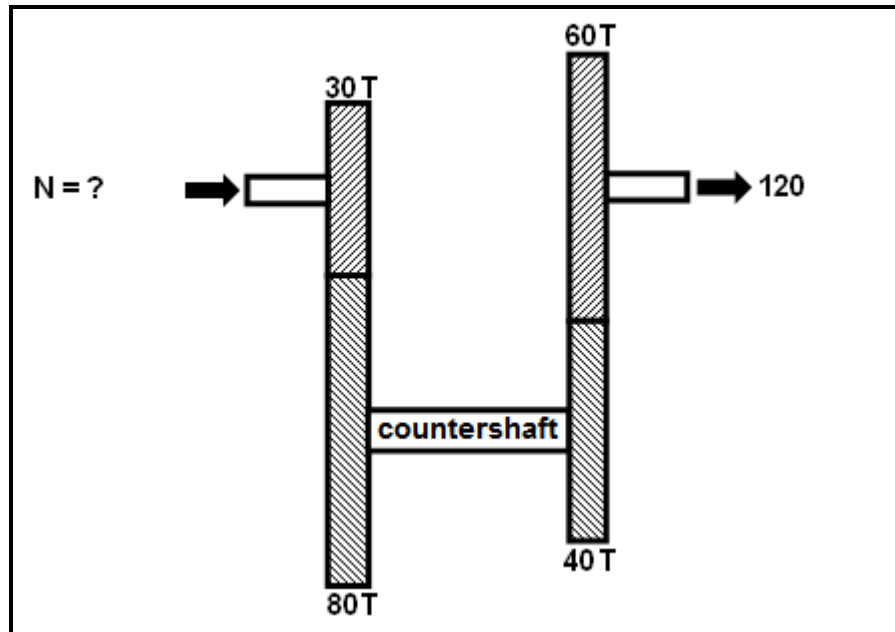

FIGURE 11.5
11.5 FIGURE 11.5 below shows a compound gear train. A driver gear on the axle of the electric motor has 30 teeth that mesh with a gear on the counter shaft with 80 teeth. On the counter shaft is another driver gear with 40 teeth that mesh with a gear with 60 teeth. The rotation frequency is 120 r/min.